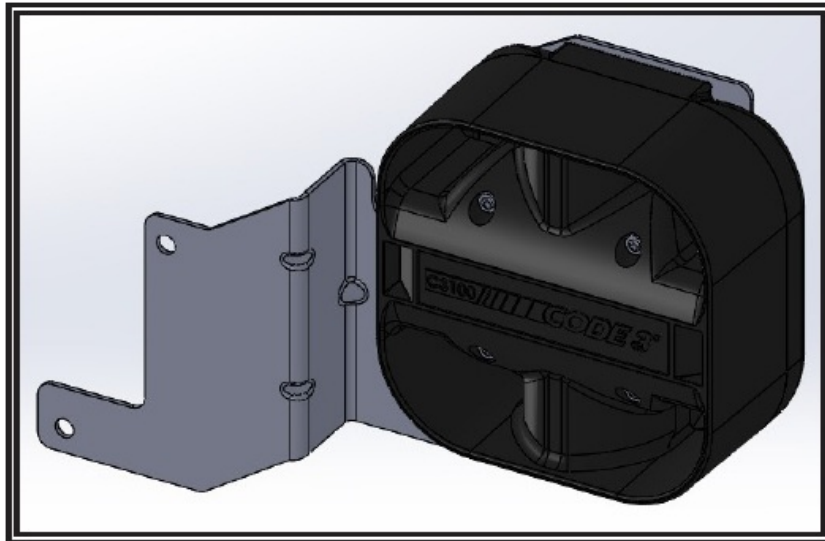

Figure 2
4. Position the bracket in front of the bumper mount. See Figure 2.